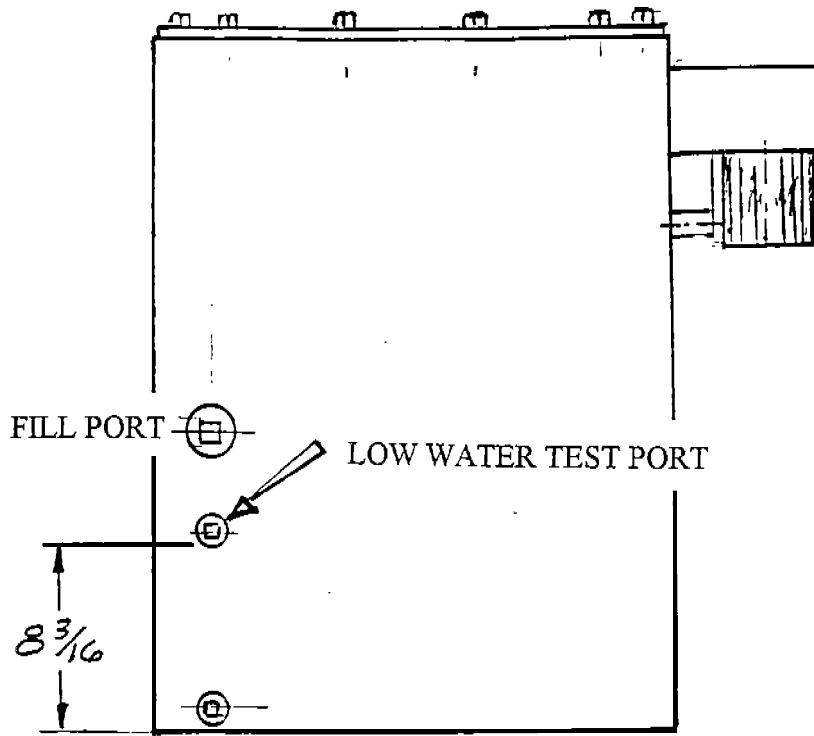

Figure 17. Location at Low Water Test Port and Fill Port
(WEEKLY) 35. () Test for proper exhaust conditioner low water shutdown. The checkport on the exhaust conditioner for checking the proper low water shutdown level is shown in Figure 17. The bottom of the check port is 8 3/16 above the outside bottom of the exhaust conditioner.
- WEEKLY) 40. () Replenish exhaust conditioner water through the fill port located 12 3/16 above outside bottom of exhaust conditioner as shown in Figure 17.